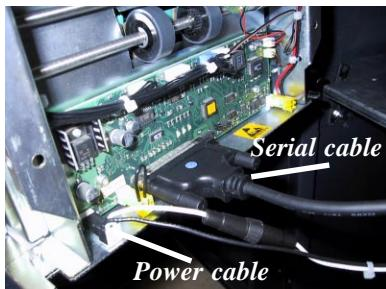

Figure 3. Serial communication and DC power cables connected.
6. Refer to Figure 3. Plug the power and data cables into the mating connectors on the back of the dispenser. Make sure the white strain clip on the power cable is pointing down. Make sure the thumbscrews on the data cable are securely tightened.